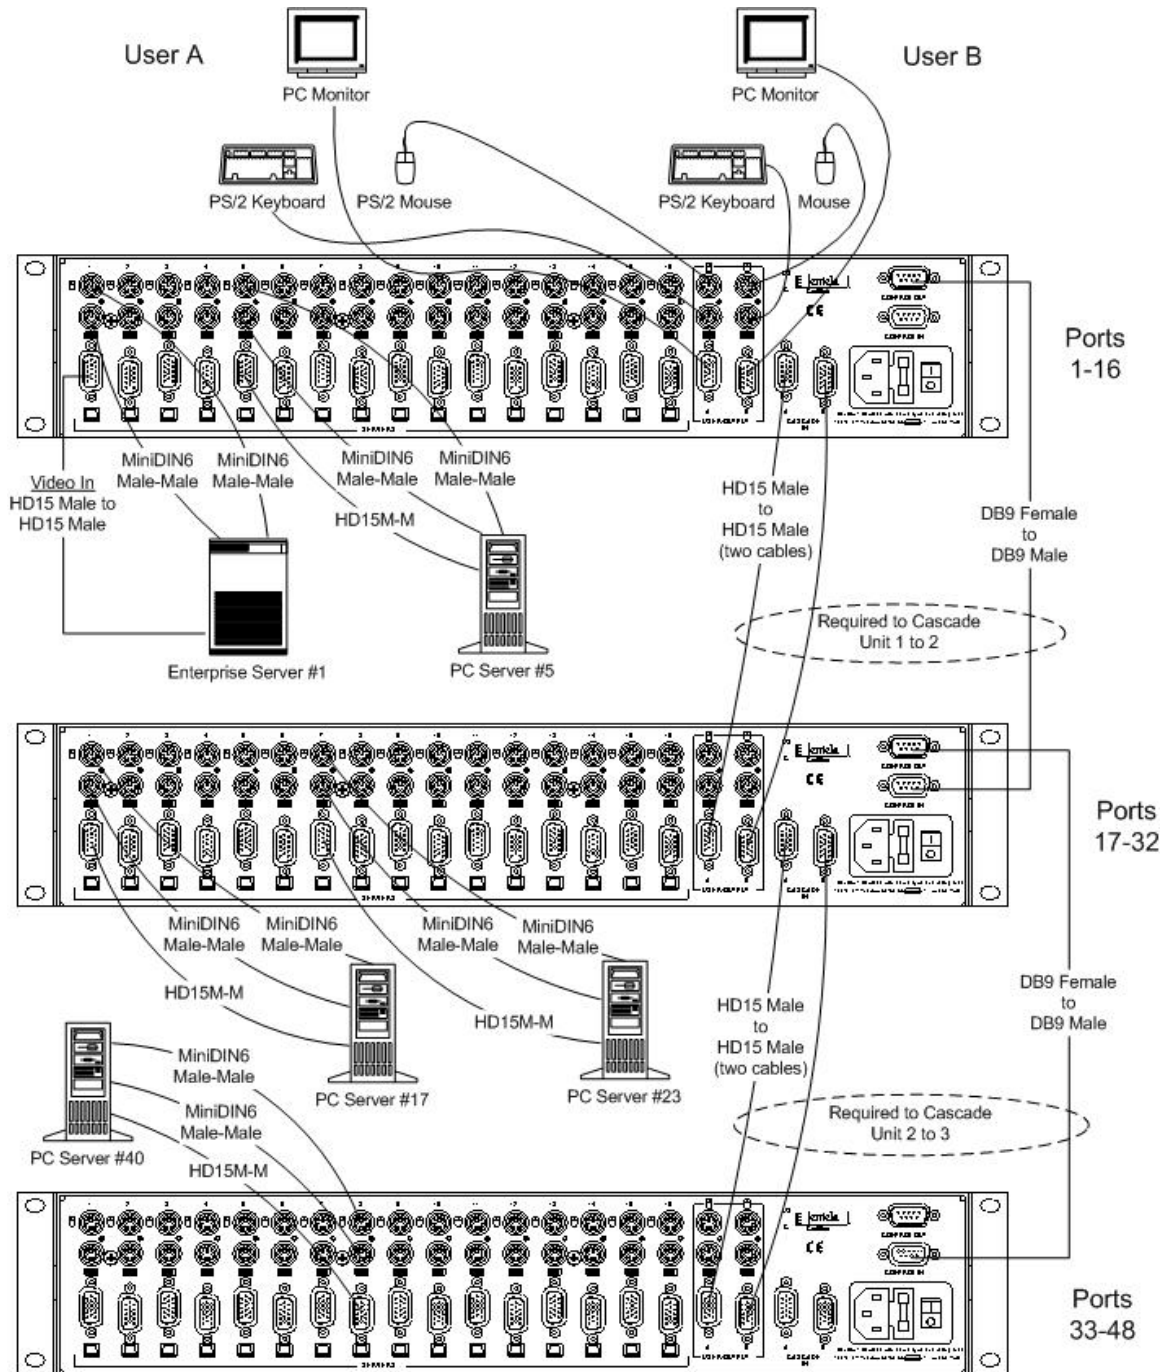

Figure 8: Cascading PC ServerSwitch 2x16 systems (3 units shown)
This section only applies to configurations with more than one PC ServerSwitch 2x16. Up to six (6) PC ServerSwitch 2x16 units may be cascaded for a maximum of 96 server ports and 2 Console Ports. See Figure 8.